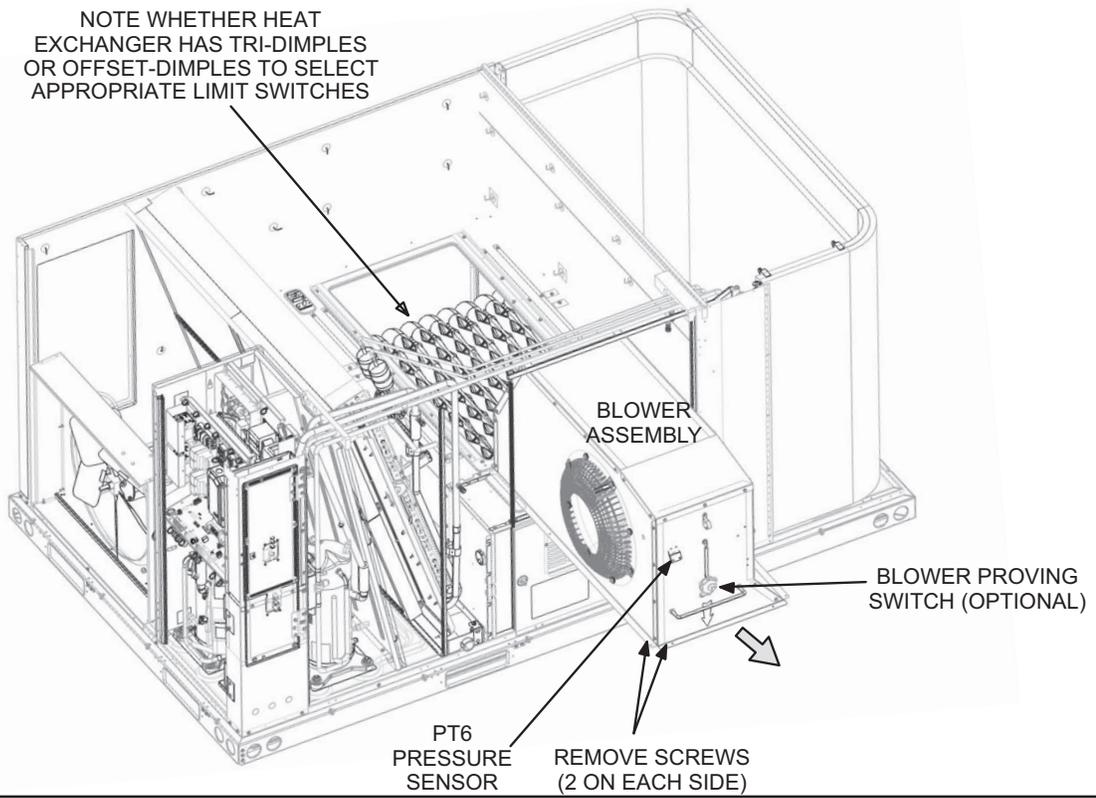

FIGURE 7
- 6 - Remove four screws securing blower assembly to unit. See FIGURE 7.
Note - Take note of the heat exchanger dimples before replacing the blower. See FIGURE 7. The appropriate replacement limit switches are determined by tri- or offset- dimples. See "Install New Limit Switch" section.
11 - Install replacement blower assembly flanges into rails on the blower deck in the same manner it was removed. Secure into place using four screws shown in FIGURE 7.
- 4 - Select the replacement switch as follows (see FIGURE 7 to view the heat exchanger dimples):